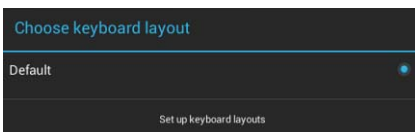

FIG. 90 Choose Keyboard Layout window
- Under **PHYSICAL KEYBOARD**, press **Generic** to open the *Choose Keyboard Layout* window (FIG. 90):